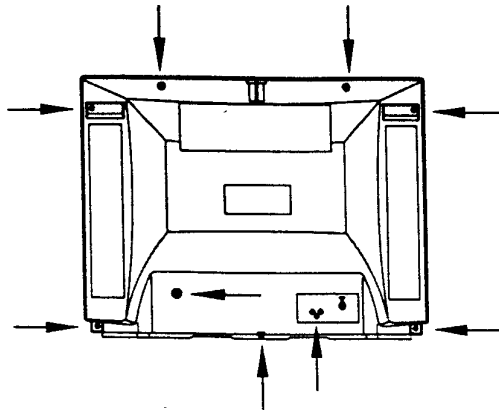

Fig. 1
2. Remove nine screws as the figure 1 shown.